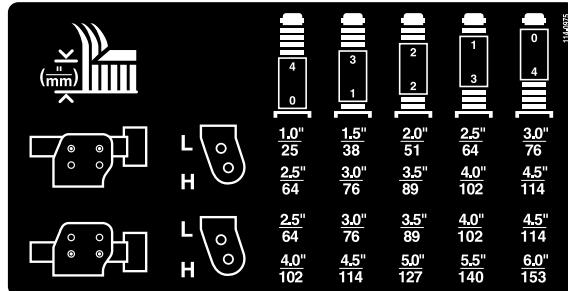

Figure 27
2. Position the castor wheel axles in the same holes in all castor forks. Refer to the chart (Figure 27) to determine the correct holes for the height of cut setting.